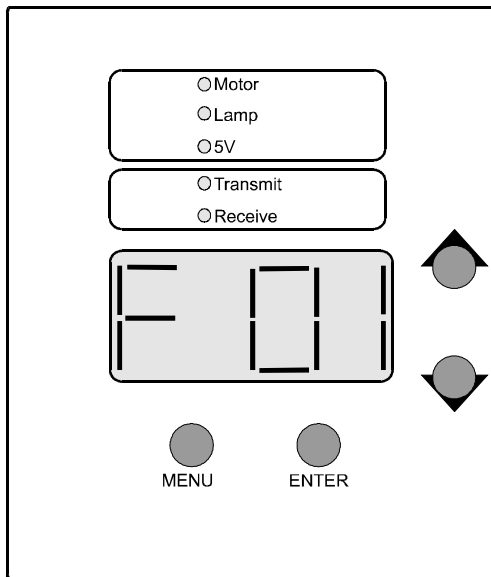

Figure 1.12. Using the Front Panel
3. Press and hold the <MENU> button until the display changes to the ADDR field. Press the <ENTER> button to manipulate the address field. Refer to Figure 1.12.
3. Press and hold the <MENU> button until the display changes to A d d R . Refer to Figure 1.12.